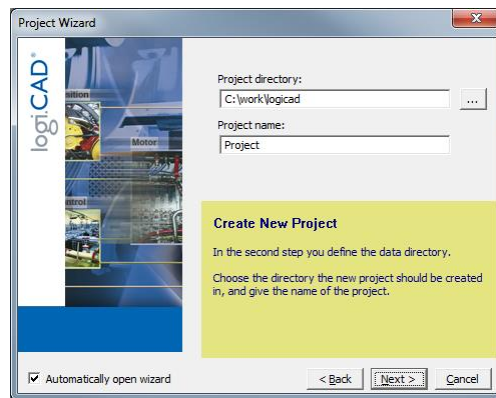

Figure 60: Project name and path
5. Specify the name of the project and the path where to store the project files, see Figure 60.